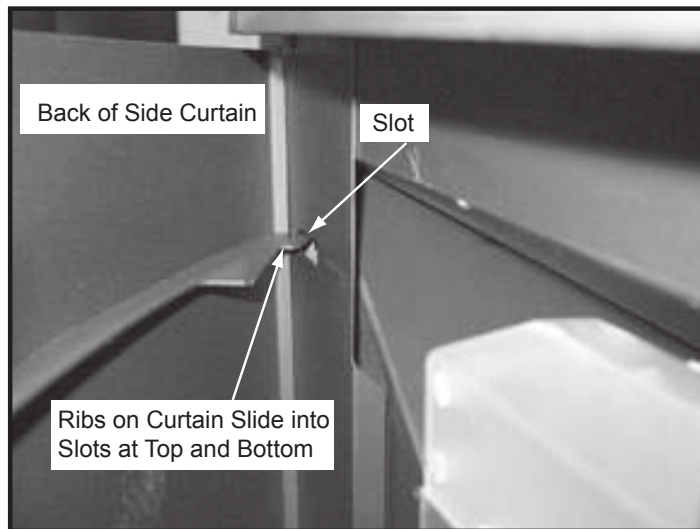
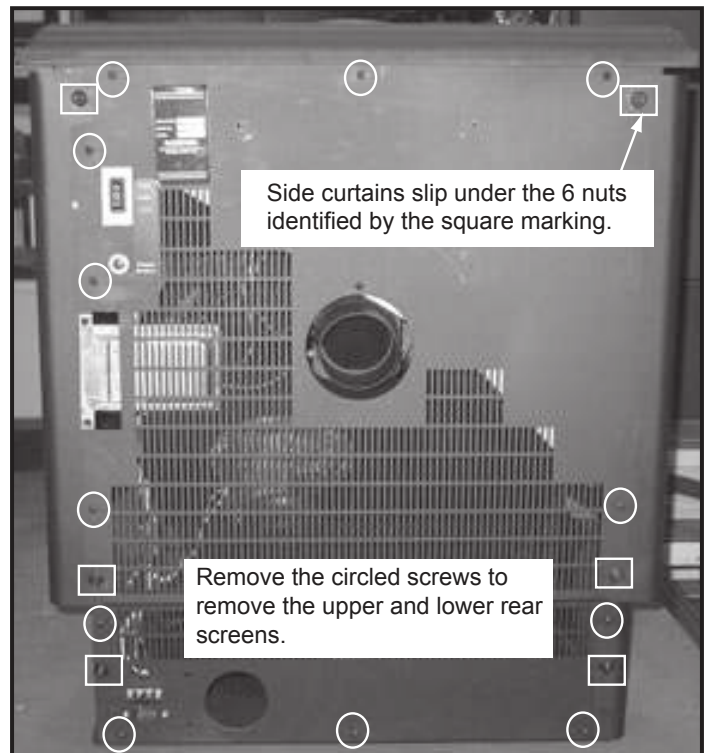

Figure 21.1
Figure 21.3
- Remove the right upper and lower side curtains by loosening 7/16" nut in the back and lift off of the appliance. When re-installing flex curtain to re-attach. **Figure 21.1.**
- Remove both upper and lower side curtains. **Figure 21.1.** Remove the upper and lower rear curtains. **Figure 21.3.**